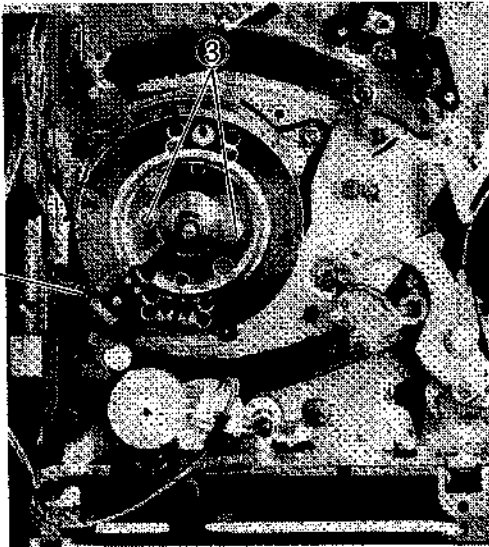

Fig. 1 Video Head
1. Upper Cylinder (Video Heads) (Figs. 1 and 2)